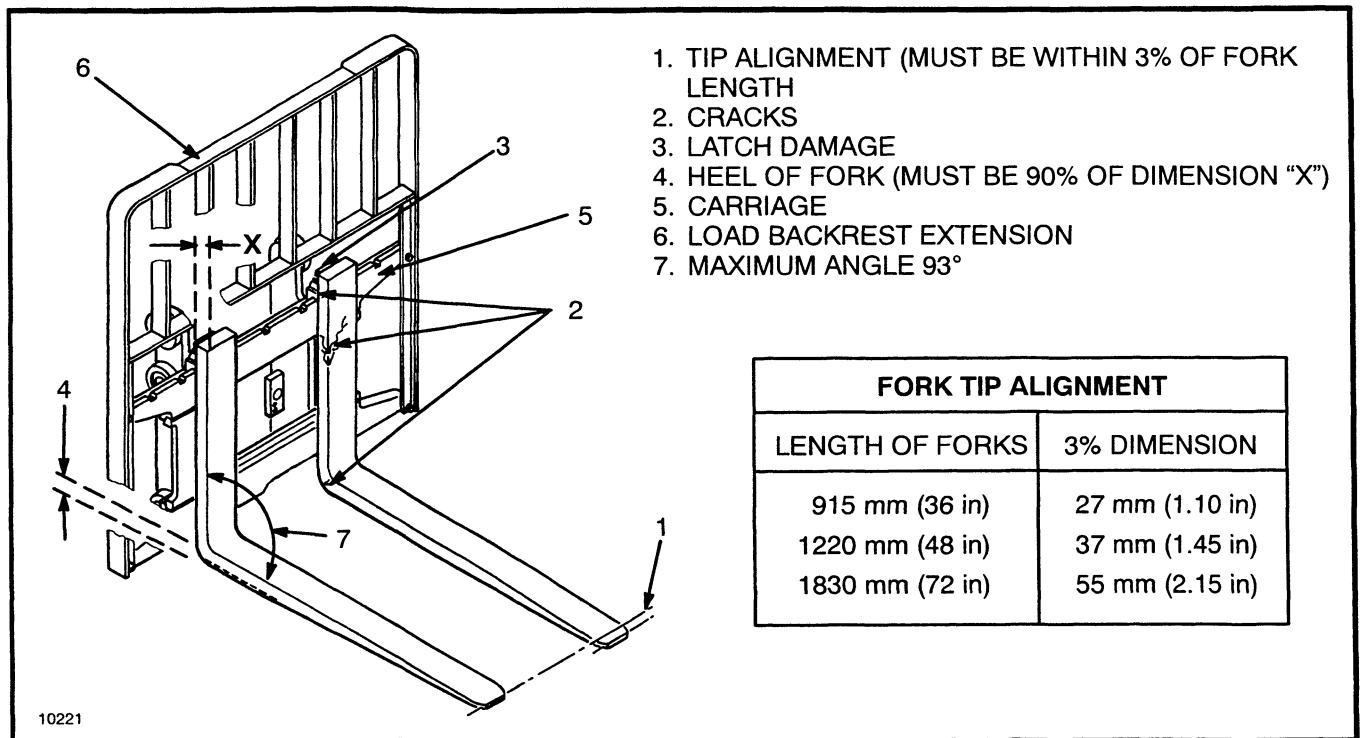
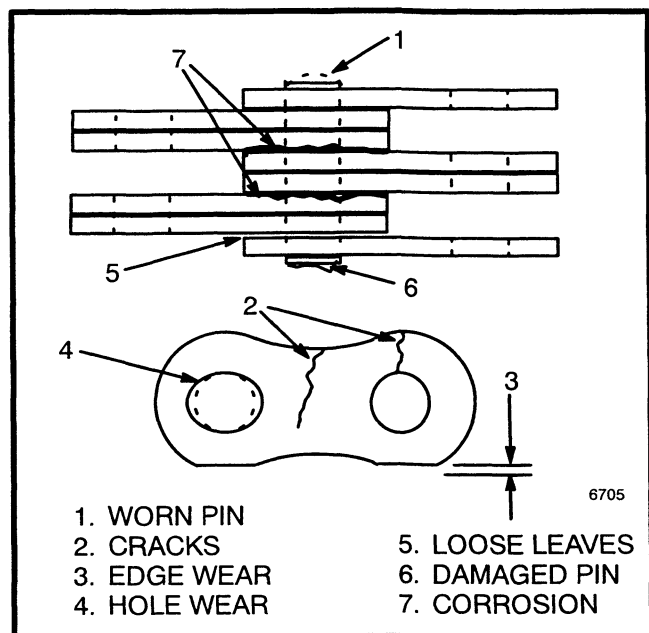

FIGURE 6. CHECK THE FORKS
FIGURE 7. CHECK THE LIFT CHAINS
Inspection Of Forks, Mast, And Lift Chains (See FIGURE 6. and FIGURE 7.)
4. Inspect the forks for cracks and wear. Check that the fork tips are aligned as shown in FIGURE 6. Check that the bottom of the fork is not worn (Item 4).
8. Inspect the lift chains for cracks or broken links and pins. See FIGURE 7.